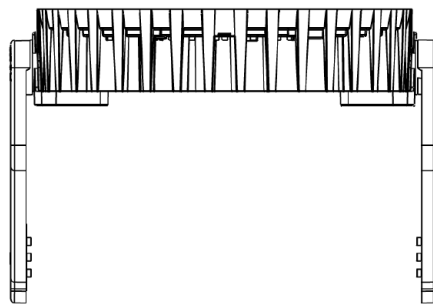
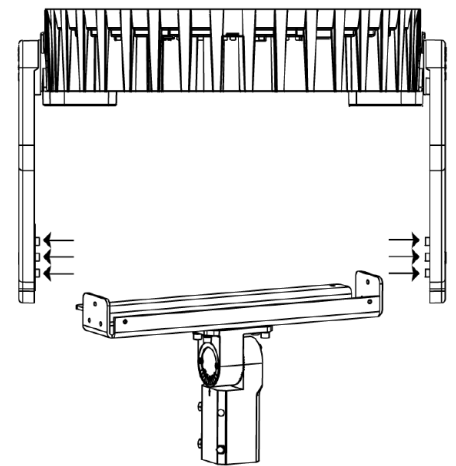

Figure 9
Figure 10
- Once the pre-installed mounting arm has been removed (Figure 9), attach the slip fitter mounting arm in the same position as the previous mounting arm. The pre-drilled holes on the left and right side arm of the fixture will line up with the holes on the slip fitter arm (Figure 10).
- Attach the base of the slip fitter by aligning the (4) holes on the base with the (4) holes on the underside of the mounting arm. Then use M8 screws, washers, and nuts to tightly secure the base to the arm (Figure 10).